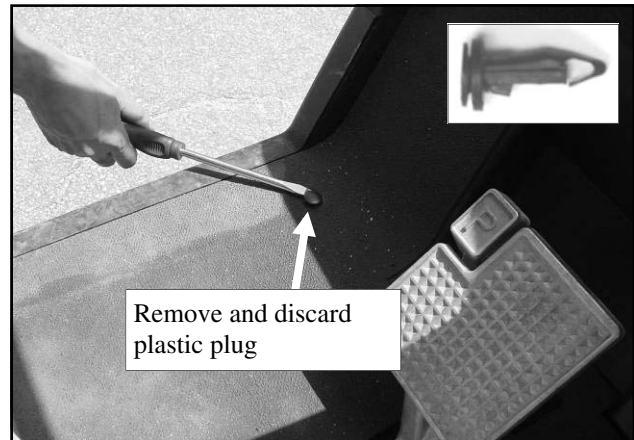

Fig. 1.4 (view from right side)
1.4 Per fig. 1.4, remove the front and rear floor mat plug using a flat screwdriver to get under the flanged head. The inset picture shows the plastic plug. Repeat for opposite side. Discard both plastic plugs.